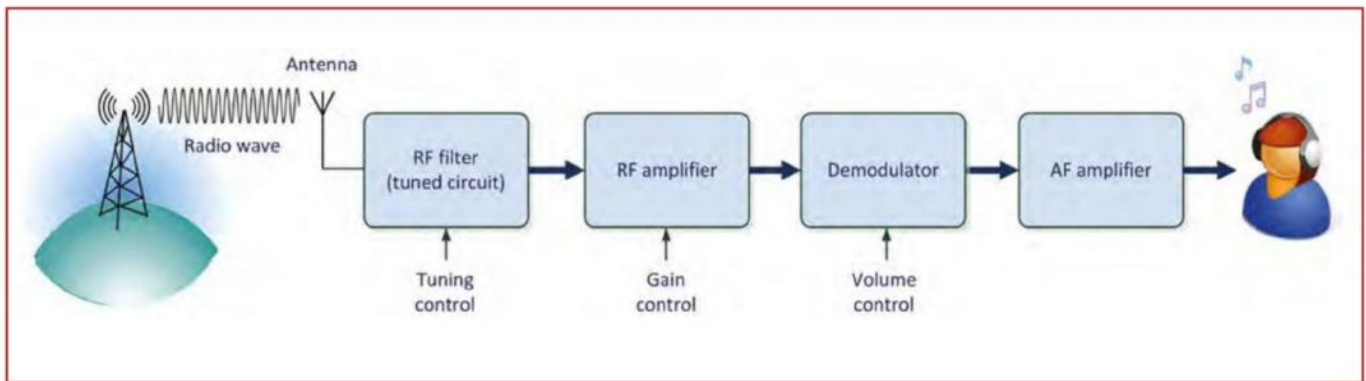

Fig.1. Simplified block schematic of our Simple Radio Receiver
The simplified block schematic of our *Simple Radio* is shown in Fig.1. The circuit comprises just four stages; a radio frequency (RF) tuned circuit, an RF amplifier, a demodulator and an AF amplifier. The RF tuned circuit provides tuning and selectivity, and incorporates a ferrite rod for reception of strong local stations without the need for an external wire antenna. For more distant reception, an external wire antenna (just 4m to 5m of insulated wire) will help to bring in signals from further afield.